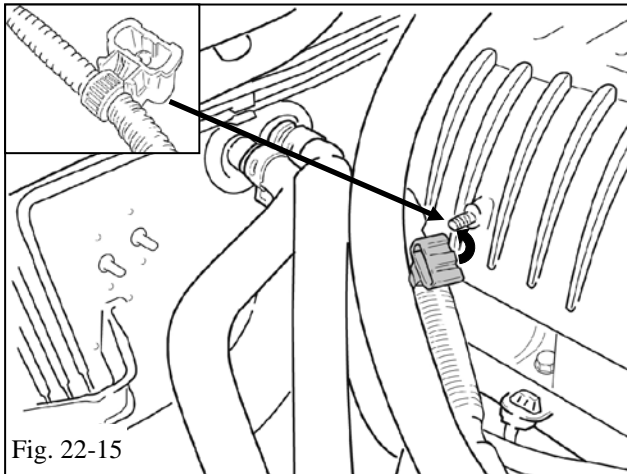

Fig. 22-15
- (u) On the passenger's side of the supercharger, re-secure the factory wire harness to the stud on the side of the supercharger housing with the wire harness clip (Item J4) (Fig. 22-15).
- (q) Route the end of the wire harness behind the intercooler pump inlet, down along the length of the pump and connect the electrical connector to the base of the pump (Fig. 22-15).